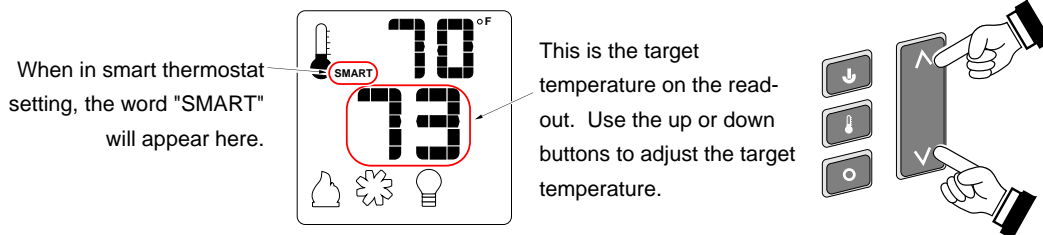

Figure 8
- SMART THERMOSTAT** – While in Smart Thermostat mode, the transmitter will control the burner to achieve the target temperature (see Figure 8 below). Flame height will be adjusted up or down to allow operation without turning the burner on and off (also called “smart modulation”). To adjust the target temperature, press the UP and DOWN buttons until a suitable temperature is achieved.